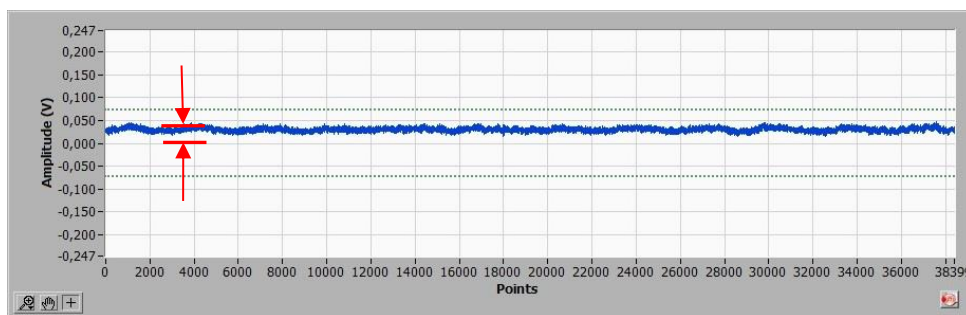

Figure 33 - Graph for the visualization of the signal, indicating an offset of approximately “+0,023 Volt”.
Sonelastic® Software may request offset adjustment on the amplitude scale. This adjustment is necessary for the acoustic response to be acquired without a DC level (Fig. 33).
Step 01 – Click on the “Test” button and the blue line (regarding the signal) will activate and continuously updated. Verify if the signal average value coincides with the x-axis ($y = 0.000$). Fig. 33 shows an example in which the blue line does not coincide with the x-axis, being necessary an *offset* correction.